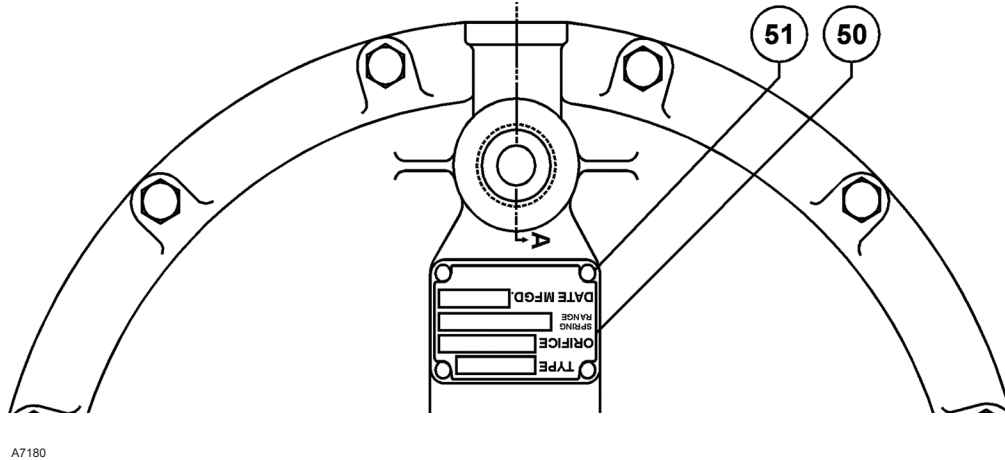

Figure 5. Y692VB Series Detail
All Y692VB Series vacuum breakers can be placed in operation by slowly introducing inlet pressure. The unit takes control when vacuum is established. This equipment is suitable for the vacuum control pressure range stamped on the nameplate (key 50, Figure 5). To adjust the pressure setting, remove the closing cap (key 3) and turn the adjusting nut (key 2) clockwise to increase the pressure setting or counterclockwise to decrease the setting. Replace the closing cap after adjustment. The closing cap may be wired to the hole provided in the spring case (key 23) to discourage tampering.